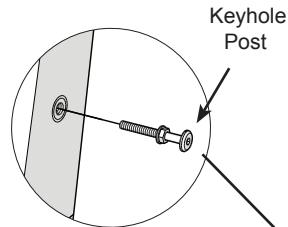

Figure 1
3. Screw keyhole posts into threaded inserts in back cushion as shown in figure 1. Tighten securely using Allen wrench.